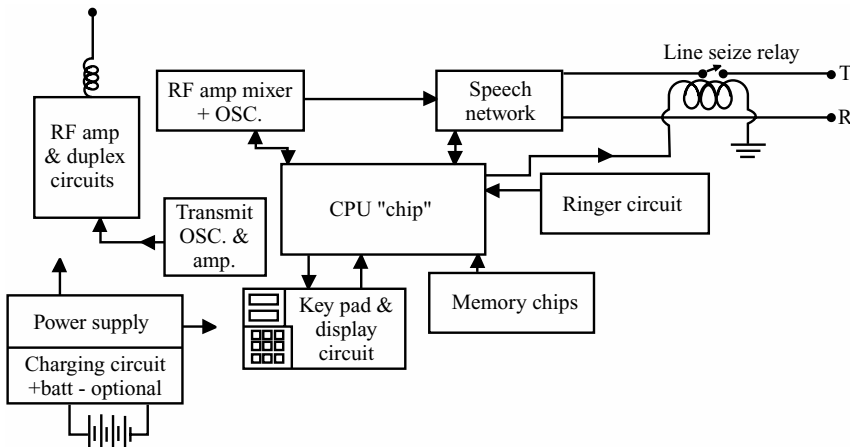

FIGURE 8-36 A block diagram of a cordless phone's base unit.
The cordless phone not only has to connect to the phone line, but also has to have a complete radio (RF) transmitter and receiver in the base (Fig. 8-36). The base also has a CPU, memory ICs, phone-line seize relay, ring-detector circuit, ringer, and some models will have a DTMF pad, tone-generator chip, and a back-up battery for power outages.